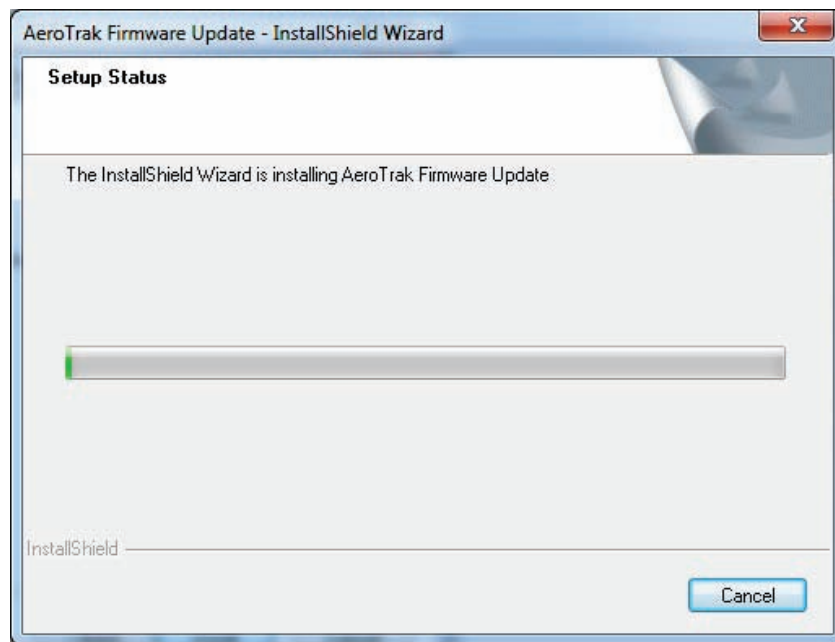

Figure 4
4. Wait for the installation to finish (Figure 4).